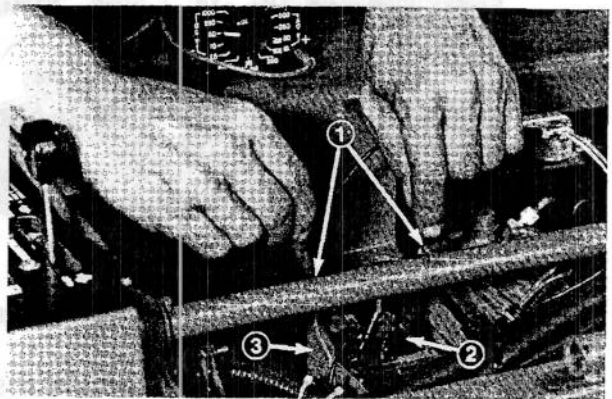

Figure 83
9. Connect a test probe to each traction switch terminal. There should be continuity. If there is no continuity, check to be sure switch is actuated by pushing leaf spring causing it to actuate switch (Fig. 83). If there is continuity when switch is manually actuated, adjust switch. Proceed to step 10. If there is no continuity when switch is manually operated, replace switch and proceed to step 10 for adjustment procedures.